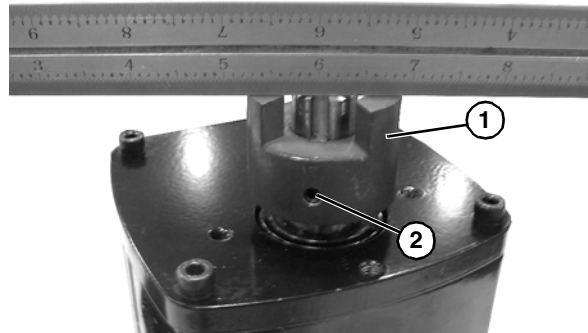

Figure 16
6. Install 3 jaw coupling (**Figure 16, item 1**) so that the shaft is even with the coupling, and tighten set screw (**Figure 16, item 2**) to 45 in-lbs (5 N-m).